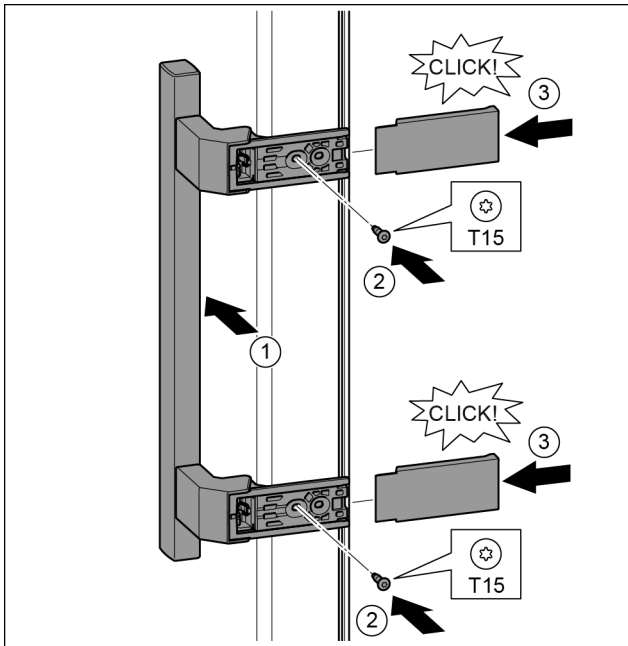

Fig. 17
- ▶ Position the handle on the other side. Fig. 17 (1)
- ▶ Tighten the screws with the T15 screwdriver. Fig. 17 (2)
- ▶ Position the covers on the side and push in. Fig. 17 (3)